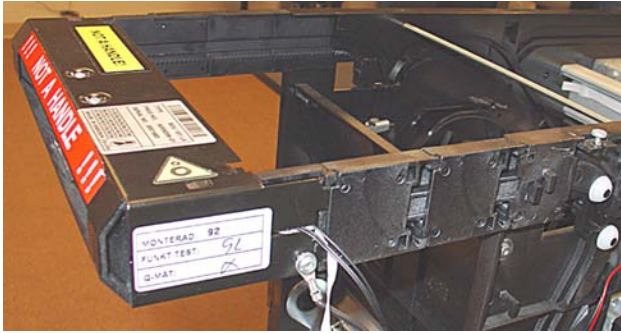

Figure 9. BOU installed on spacers.
- Install/snap the BOU on the ends of the spacers (Figure 9).